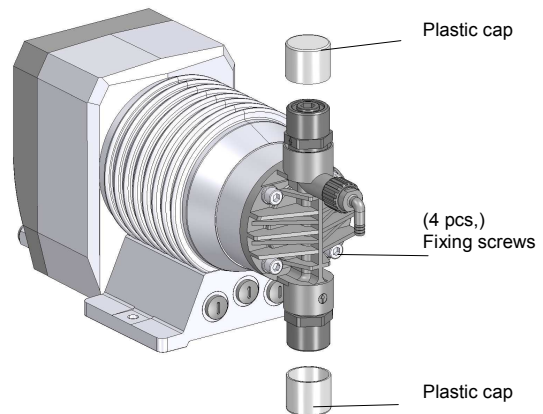

Fig. 20 Solenoid diaphragm pump with plastic caps
- Prior to connecting the pipes, remove the plastic caps on the suction and pressure sockets of the pump. (see Fig.20).